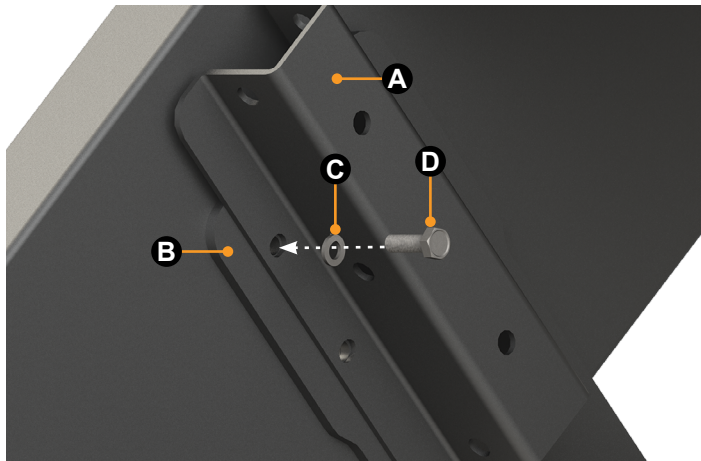

Fig.5
17. Install one #10 x 0.34", lock washer onto one #10 - 24 x  $\frac{5}{8}$ " bolt and insert through the mounting bracket and into the side of the step (Fig.5).